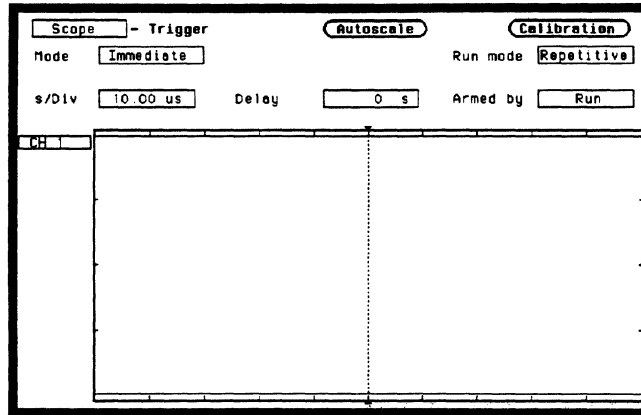

Figure 3-51. Trigger Menu
5. Press the TRACE/TRIG key and set the Mode to Immediate and the Run mode to Repetitive as in figure 3-51.
- Press **TRACE/TRIG** and set the **Run** mode to **Repetitive** and trigger **Level** to **0 V** as in the previous figure 3-51.
- Press **TRACE/TRIG** and set the **Run mode** to **Repetitive** and trigger **Level** to **0 V** as in the previous figure 3-51.